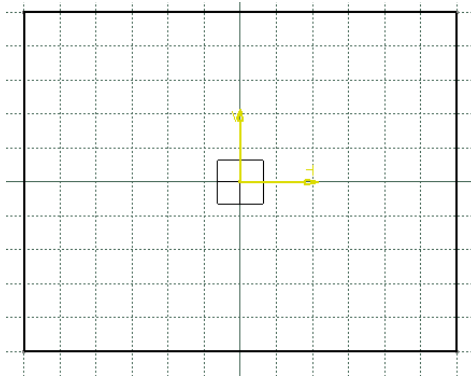

Figure 2-50 The outer loop of the sketch
3. Move the cursor to the location whose coordinates are 60,50 and click to specify the upper right corner of the rectangle. Figure 2-50 shows the outer loop of the sketch drawn using the **Rectangle** tool.